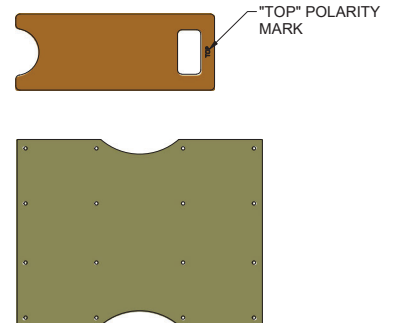

Figure 1 – Converting Fwd Ballast Assembly
This service letter applies to all Wipline model 10000 amphibian floats installed per STC SA01795CH on AT-802 (two seater) aircraft. Steel ballast plates became standard for production in 2025. Review Figure 1 to determine the equipped configuration.
2. Add spacers and exchange ballast plates at fwd ballast assembly. Refer to Figure 1.